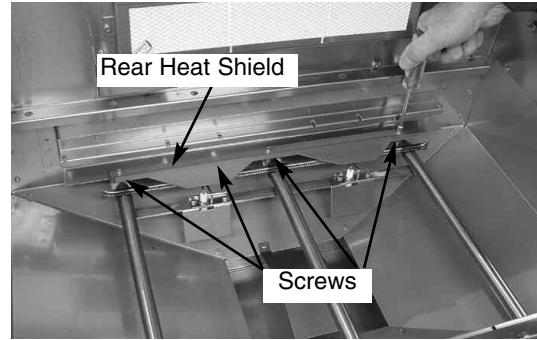

Fig 2
2. Remove the screws holding the rear heat shield in place. Lift out rear heat shield and set aside. (See Fig. 2)